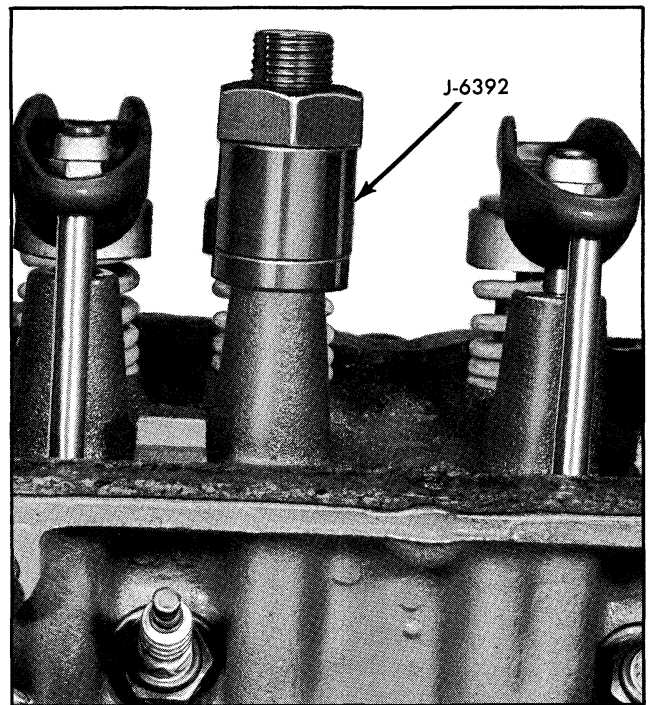

Fig. 6-30 Tool Installation for Removing Rocker Arm Stud
4. Place washer J-6392-3 at bottom of rocker arm stud (Fig. 6-30).
6. Place spacer J-6392-2 over stud remover J-6392-1 (Fig. 6-30).
7. Thread 7/8" standard nut on stud remover and turn nut until stud is out of cylinder head (Fig. 6-30).